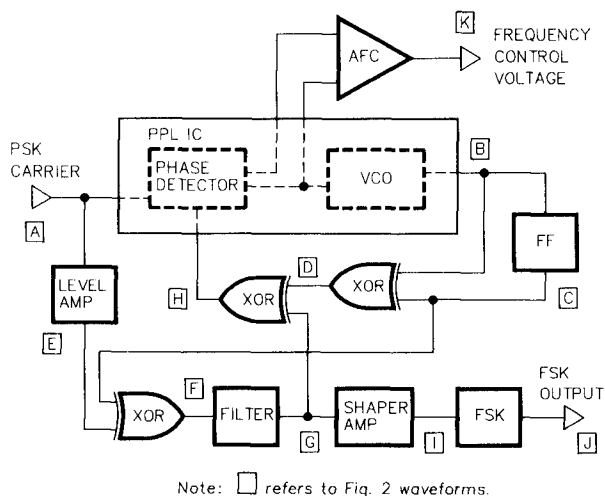
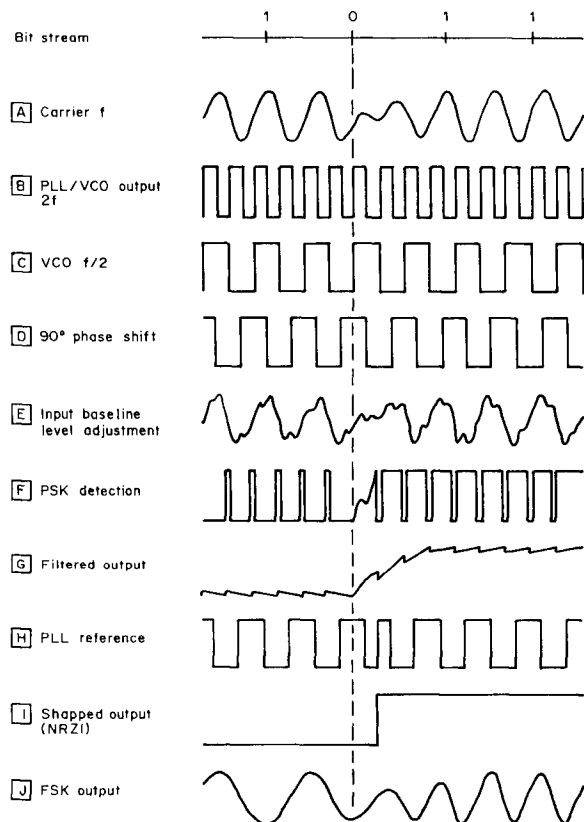

Fig 1—Demodulator block diagram (note: □ refers to Fig 2 waveforms)
Fig 2—Demodulator waveforms
Referring to the demodulator block diagram, Fig 1, and the demodulator waveforms, Fig 2, the following describes each waveform diagram. Note that in the timing sequence there is one 0-bit level change to illustrate the PSK operation.
Demodulator—Figs 2 and 3. (5) Signal base line: Adjust R2 for a level of 2 V on pin 8 of U3C (adjustment is made with no carrier input). (6) VCO frequency: Adjust R1 for 3200 Hz while observing pin 4 of U1 (adjustment is made with no carrier input). (7) Demodulator output: Connect the tester carrier to the demodulator input and trim R1 for minimum phasing transients while monitoring the NRZI output. The phase-error meter connected across pins 6 and 7 of U1 will indicate near minimum error when this adjustment is completed. The normal NRZI output will be a clean 0.8-ms pulse, either positive or negative depending upon which phase the PLL locks on.
FSK—Figs 2 and 4. (8) Shaper output: Adjust R4 for a pulse width of 0.8 ms while monitoring the shaper output on the collector of Q4. (9) Demodulator level trim: Adjust R2 (Fig 3) for an error-free output while observing the collector of Q4 and at the same time reducing the tester input to the demodulator. The results should be an error free output with an input of about 1/4 V. (10) Oscillator feedback: Temporarily connect the NRZI input to +5 V. Adjust R7 for stable oscillator output while maintaining minimum distortion. (11) FSK frequency: Adjust R6 for an output of 2200 Hz. Temporarily connect the NRZI input to ground. Adjust R5 for an output of 1200 Hz. (12) FSK output: Remove the temporary grounding of the NRZI output and confirm normal FSK output of 4 V P-P.
The SSB Exciter Diagram, Fig 2